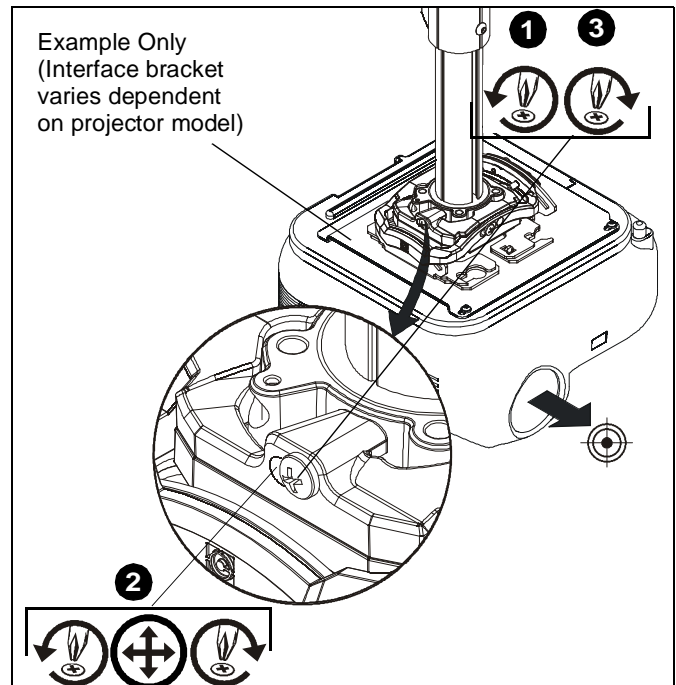

Figure 6
1. Loosen YAW adjustment locking screw using a #2 Phillips screwdriver. (See Figure 6)
2. Turn YAW micro-adjustment screw right or left using a #2 Phillips screwdriver until image is properly aligned on target. (See Figure 6)
3. Tighten YAW adjustment locking screw using a #2 Phillips screwdriver. (See Figure 6)